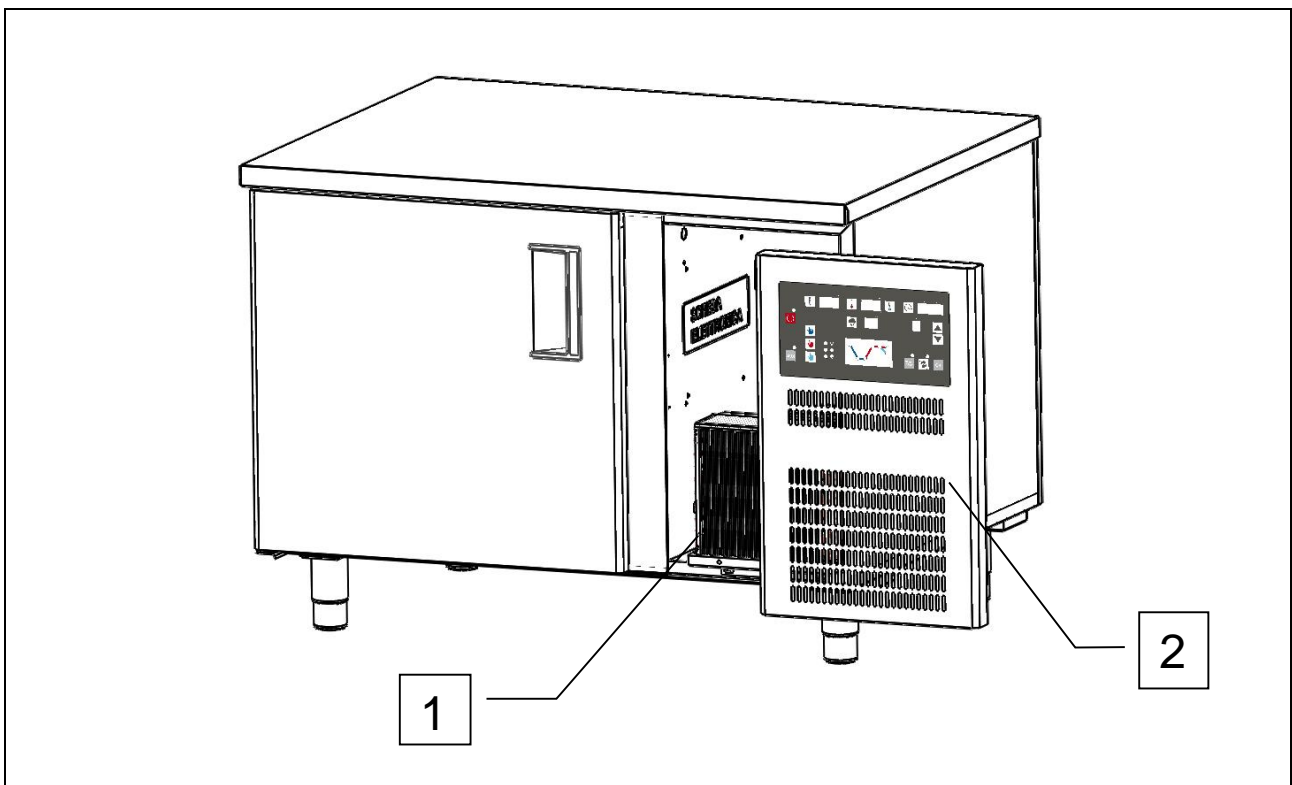

Fig. 3
- self-contained refrigerating unit (ref. 1, fig. 3);
- control panel (ref. 2, fig. 3)